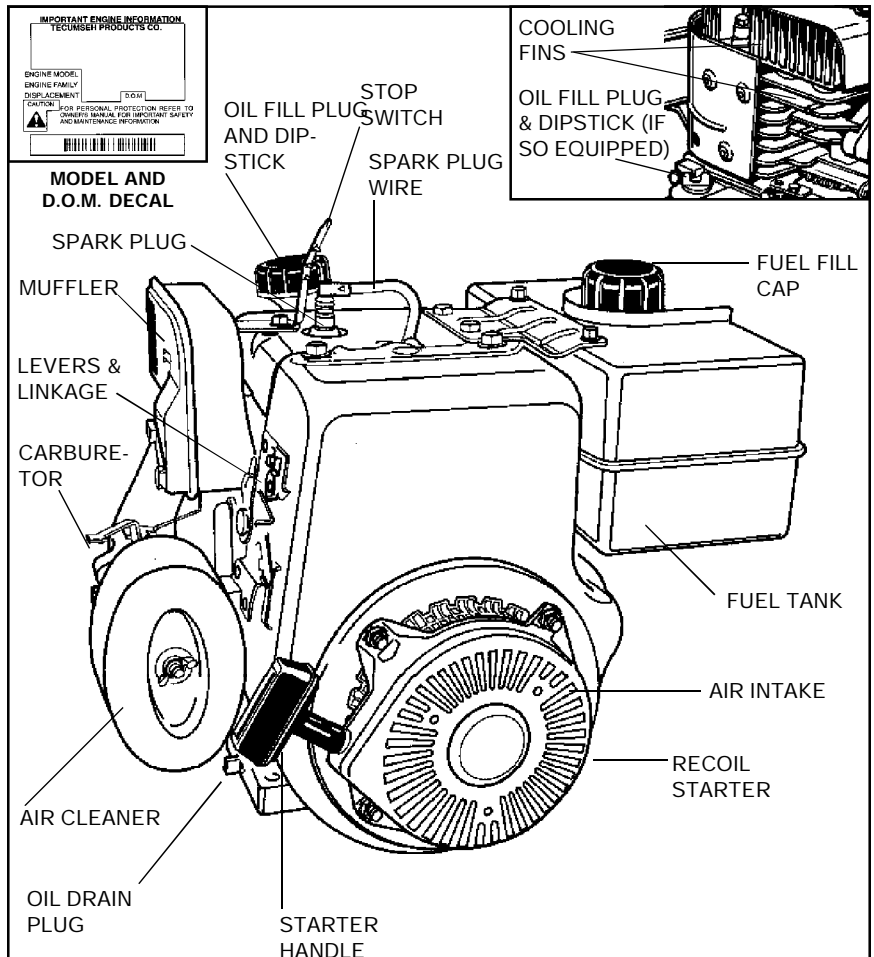
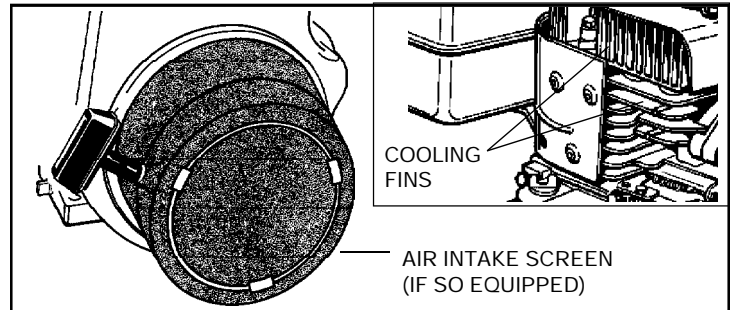

Figure 1
Figure 5
- B. Clean area around oil fill plug (see Figure 1).
- B. Be sure spark plug wire is attached to spark plug (see Figure 1).
- C. Be sure stop switch (if so equipped see Figure 1) is not contacting spark plug.
- C. Grasp starter handle (see Figure 1) and pull rope out, slowly, until it pulls harder. Let rope rewind slowly. Then pull rope with a rapid full arm stroke. Let rope return to starter slowly.
⚠ Push stop switch (if so equipped see Figure 1) located next to spark plug on engine against spark plug and hold it in this position until engine is completely stopped.
⚠ CHANGE OIL (see Figure 1):
- Clean area around oil drain plug (see Figure 1).
⚠ COOLING SYSTEM (see Figure 1 and Figure 5):